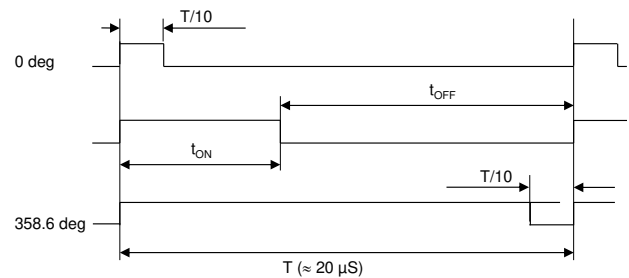

Figure 16: Timing Diagram of the PWM Output
This output provides a logic signal with a duty cycle proportional to the angle of the magnetic field. The PWM frequency is close to 50kHz (the nominal period is 20µs). The duty cycle is bounded by a minimum value (1/10 of the period) and a maximum value (9/10 of the period) (see Figure 16). This means that the duty cycle varies from approximately 10% to 90% with a resolution of eight bits. The angle can be retrieved by measuring the on time. Since the absolute PWM frequency requires the measurement of the duty cycle (i.e.: the measurement of both the on time (t_{ON}) and the off time (t_{OFF})). The angle can be calculated with Equation (5):